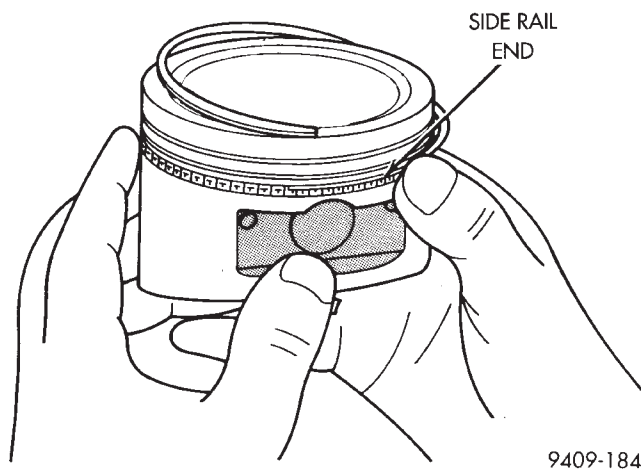

Fig. 91 Installing Side Rail
f. Install the side rail by placing one end between the piston ring groove and the expander. Hold end firmly and press down the portion to be installed until side rail is in position. **Do not use a piston ring expander (Fig. 91).**